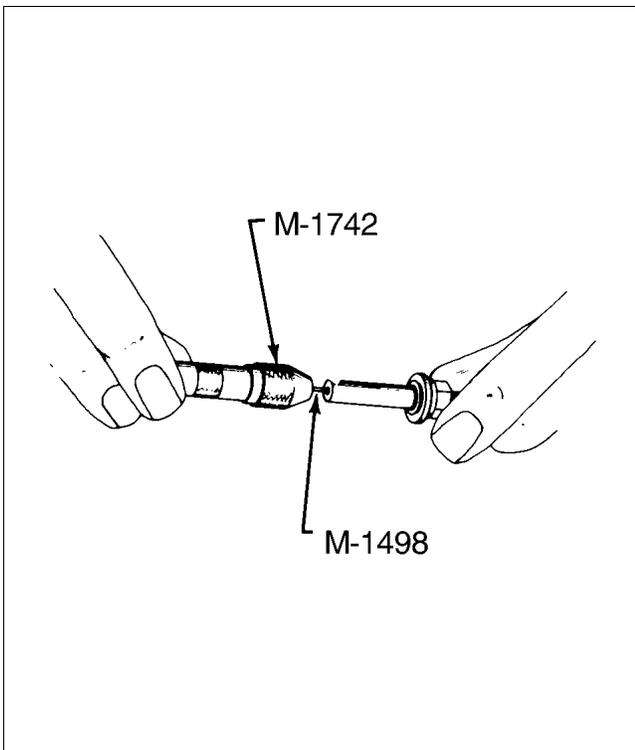

Figure 74-26. Installation of Electrode Screw
13. Clamp threaded end of M-1498 electrode screw in T-111 or M-1742 pin vise. Insert tapered pin of electrode screw into center of coiled conductor by turning pin vise counterclockwise and pushing at same time until screw is flush with insulation. This is done at both ends of the wire assembly. (Refer to Figure 74-26.)